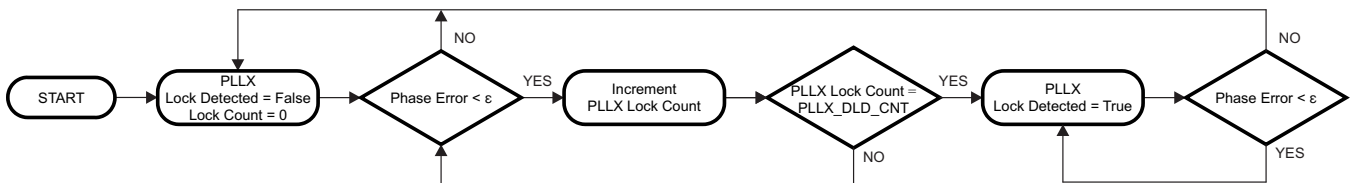

Figure 16. Digital Lock Detect Flowchart
Both PLL1 and PLL2 support digital lock detect. Digital lock detect compares the phase between the reference path (R) and the feedback path (N) of the PLL. When the time error, which is phase error, between the two signals is less than a specified window size (ϵ) a lock detect count increments. When the lock detect count reaches a user specified value, PLL1_DLD_CNT or PLL2_DLD_CNT, lock detect is asserted true. Once digital lock detect is true, a single phase comparison outside the specified window will cause digital lock detect to be asserted false. This is illustrated in Figure 16.